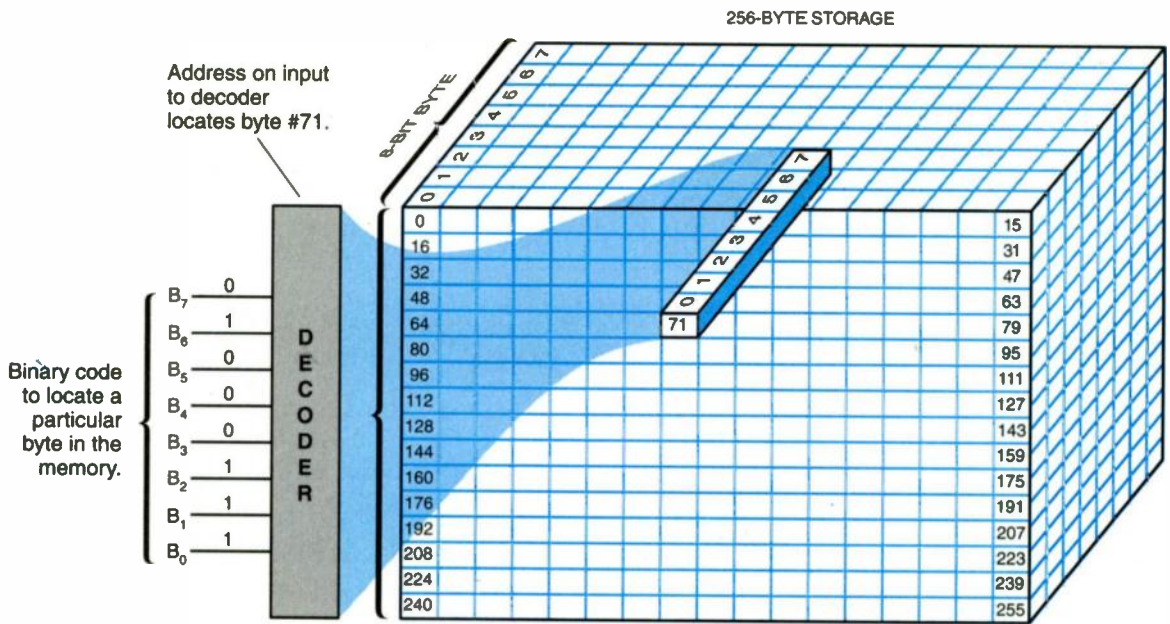

Figure 2-14. Bistable memory cells can be combined into large memories. The individual bytes are located by applying a specific binary input to the decoder.
*Figure 2-14* shows a much larger memory than the registers of *Figure 2-13*. This is used only as an example to demonstrate the technique used to provide the function. The size (256 bytes) is primitive with respect to today's state-of-the-art computer memories that may have 16 megabytes or more of storage capacity in one IC package. But the purpose and technique is the same; that is, to provide a matrix of storage elements, with each element capable of storing one bit as either a 1 or a 0, and organized into bytes or words which can be located at a specific address by a decoder.
In the 256-byte memory of Figure 2-14, each of the 256 memory cells stores an 8-bit byte; therefore, a decoder that can provide 256 combinations is required. An 8-bit binary number provides the address to locate a specific memory cell. Cell #71 is located by the input address shown in Figure 2-14.
What binary address will locate memory cell #187 in the RAM of Figure 2-14? Choose the weighted values that are required to make the decimal number. Place a 1 in the weights required and 0 in the weights not required.